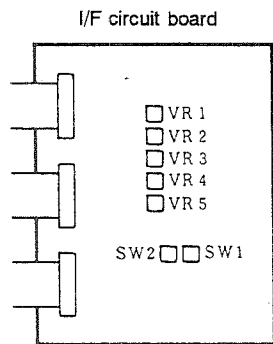

Fig. 1
- 1) Set switch SW2 on the I/F circuit board (Fig. 1) to 3 on the scale.